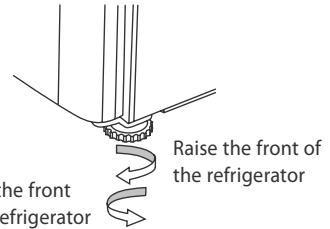

Fig.11 Refrigerator feet
- C Adjust the front feet down until the refrigerator is leaning backward with the front approximately ½" (10 mm) higher than the back. This will ensure a good door closing action. (Refer to Fig.11).